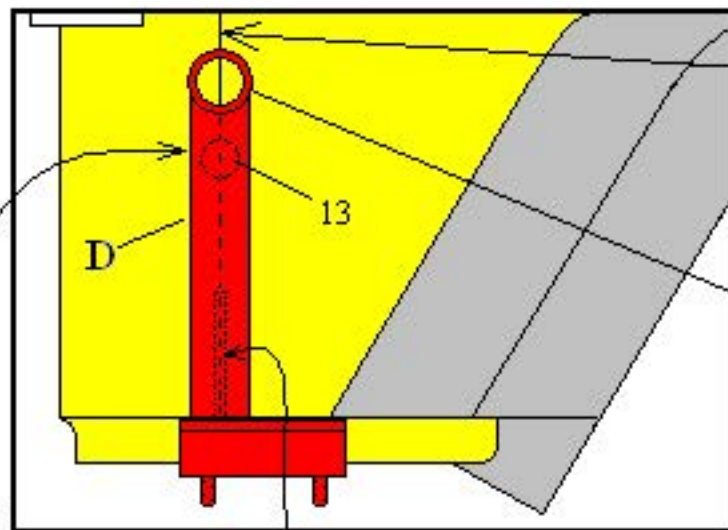

Fig. 6
- 6- Refer to page 5 Fig. 6 clean body seam (12) with denatured alcohol prior to install both rear side panels of the vehicle top to bottom.
- 7- Refer to page 4 Fig. 4 and remove the Rear Passenger and Driver side Support Towers (D) from the hardware box supplied with your kit. As indicated on page 4 Fig. 4a (exploded cut away view) remove any debris such as mud or the like from the underside of the vehicle which may inhibit the installation procedure. Use Rear Support Tower (D) marked "PASSENGER SIDE" as shown on page 4 Fig. 4 and Fig. 4a and install clamp portion (5) of the Support Tower (D) over the Rear Passenger side sheet metal base lip (6) with pinch plate (7) on the inner side between the vehicle body and the clamps 3/8" hex head screws, lock washers and flat washers (8). While holding Support Tower (D) in place use Flange (10) and collar (11) as shown on Fig. 4a and on page 5 Fig. 6 to align the Support Tower (D) to the Rear vehicle body seam (12). Once alignment is completed and clamp is fully pushed up against the lower body lip (6) as shown on page 4 Fig. 4a snug down the two clamp 3/8" hex head screws, lock washers and flat washers (8) using a 9/16" socket or box end wrench. Do not fully tighten at this time.
- 8- Refer to page 2 Sections "G" of your hardware kit and remove one round Black Nylon adhesive backed wear plate located in Bag #3. Refer to page 4 Fig. 4a and page 5 Fig. 6 then peel off the self adhesive protective film and place the 1" round wear plate on seam (12) of the vehicle body directly behind black nylon stand offs (13) of support Tower "D". You will have to tilt Tower "D" slightly away from the vehicle body at the same time you apply the black nylon wear plate. Be sure not to move Tower "D" out of previously aligned position during this procedure. After the black nylon wear plate has been installed check that Tower "D" alignment has not been moved as outlined on page 11 step 7 of the install instructions.